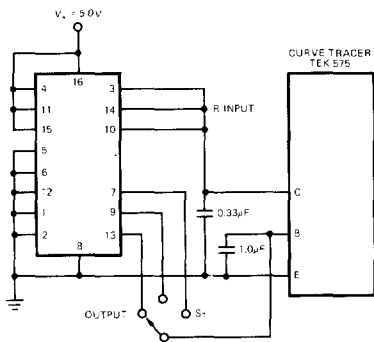
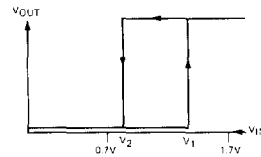

Fig. 1
Fig. 2
Verify in each of three (3) positions of  $S_1$  (Fig. 1) that the following occurs per Fig. 2.